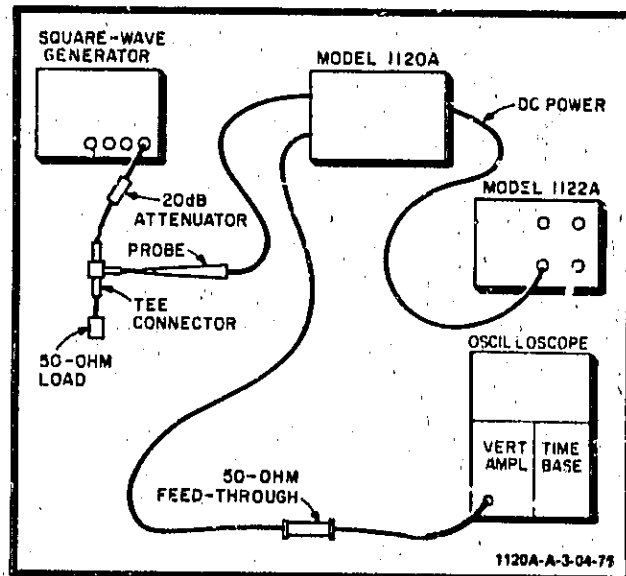

Figure 9. Low-frequency Gain Test Setup
25. Connect the equipment as shown in figure 9 for Low-frequency Gain check.